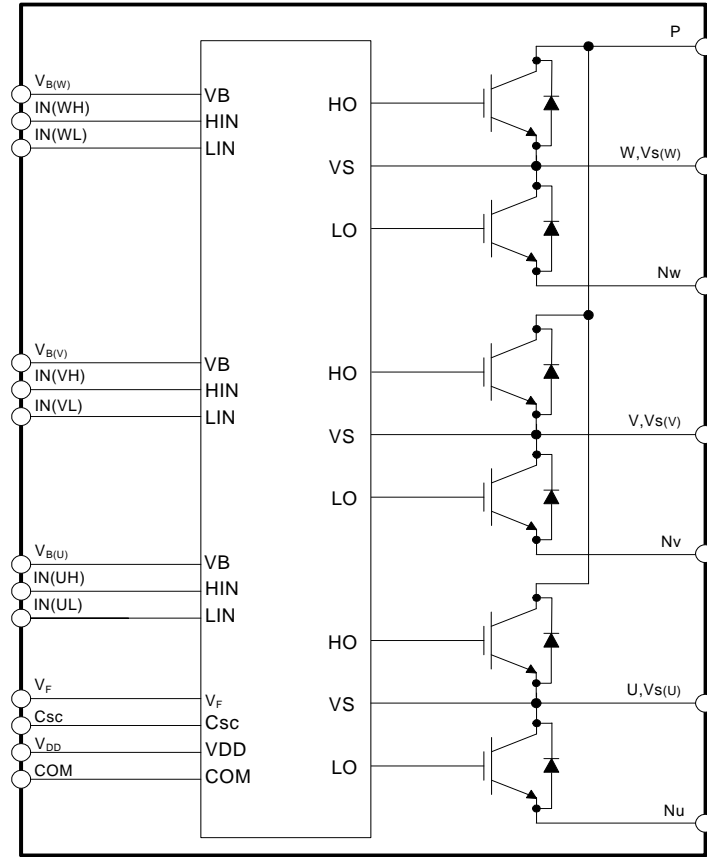

**Figure 2. Top View**
6. For the measurement point of case temperature ( $T_C$ ), please refer to Figure 2.